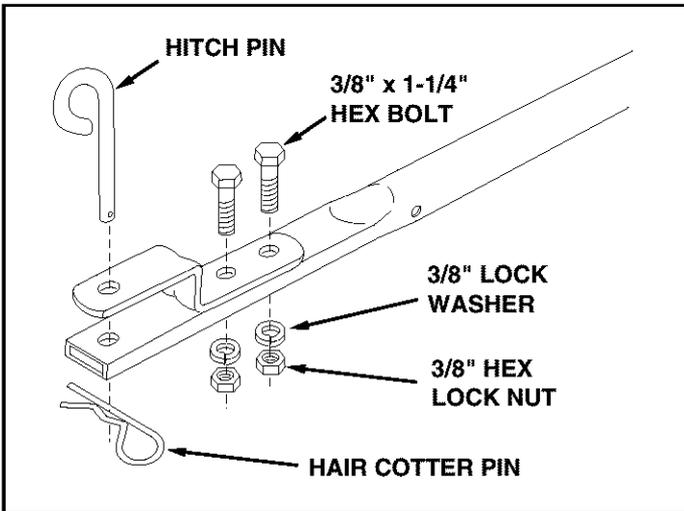

FIGURE 5
- Assemble the hitch bracket to the top of the hitch tube using two 3/8" x 1-1/4" hex bolts, 3/8" lock washers and 3/8" hex lock nuts. See figure 5.
- Assemble the hitch pin through the hitch bracket and the hitch tube and secure with the hair cotter pin. See figure 5.